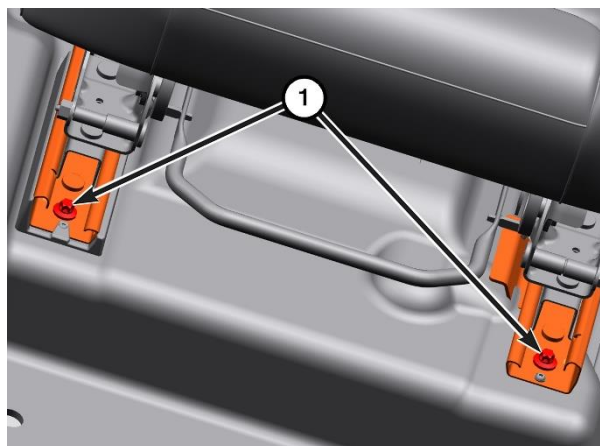

Figure 73 – Seat Front Bolts
10. Remove the second row front seat to floor bolts (1) (Figure 73).